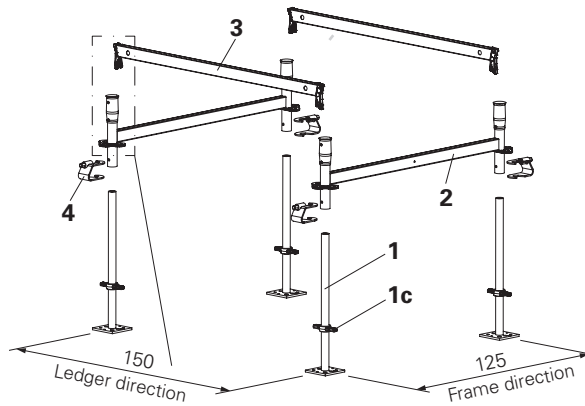
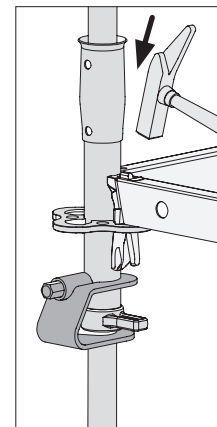

Fig. A1.01
Fig. A1.01b
- Dimension 150 in the direction of the horizontal ledgers is variable and shown here as an example. All components in the ledger direction, e.g. horizontal ledgers, are to be used according to their length. (Fig. A1.01)
1. Position four base spindles (1) on the ground in the form of a rectangle 1.25 x 1.50 m. (Fig. A1.01)
2. Place one base frame (2) on each of the two opposing base spindles, 1.25 m apart. (Fig. A1.01)
4. Securely fix all wedges using a hammer. (Fig. A1.01b)
6. Optional: fit spindle locking (4).
- Insert spindle locking above the quick jack nut of the base spindle and ensure that the pin of the fixing screw (4a) is securely positioned in the hole on the standard (1b). (Fig. A1.01 + A1.02a)